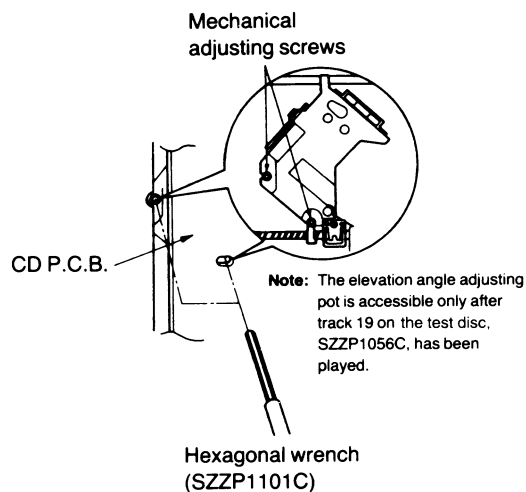

Fig. 7
4. Alternately adjust the two mechanical adjusting screws with the 2.0 mm allen wrench (SZZP1101C) until the RF signal amplitude on the oscilloscope is maximize. (Shown in Fig. 7)